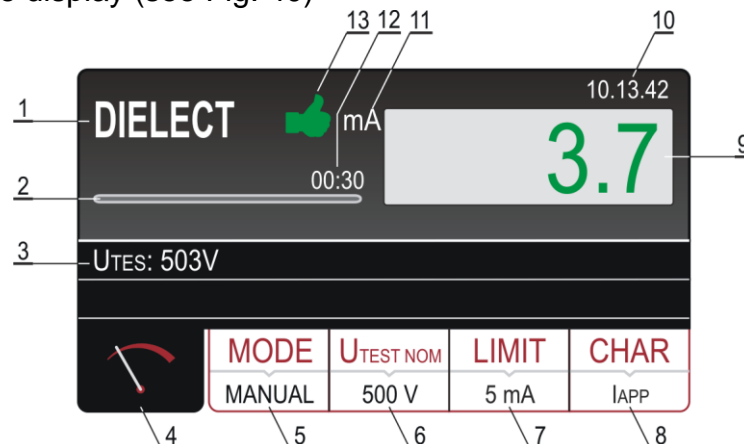

Fig. 40 : Visualization of DIELECT test result
9. Press the **START/STOP** key to perform the measurement. The test result is shown on the display (see Fig. 40)